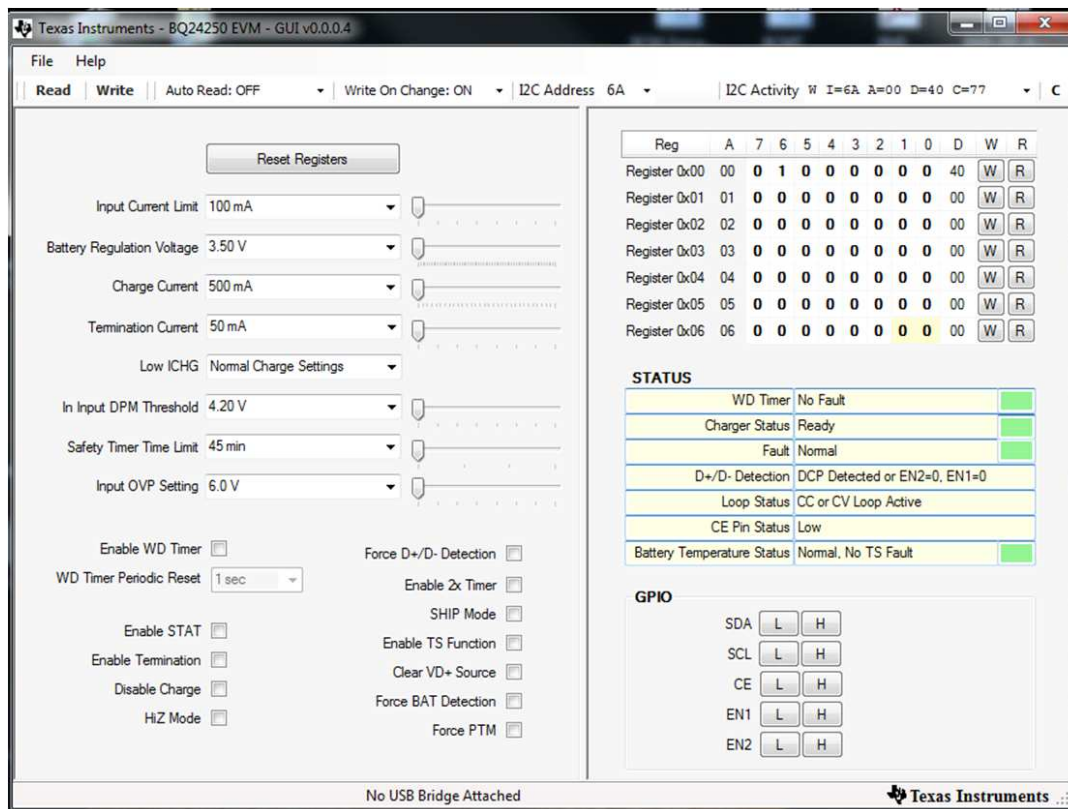

Figure 5. Main Window of the bq2425xSW Evaluation Software
- Turn on the computer. Open the bq2425x evaluation software. The main window of the software is shown in Figure 5.